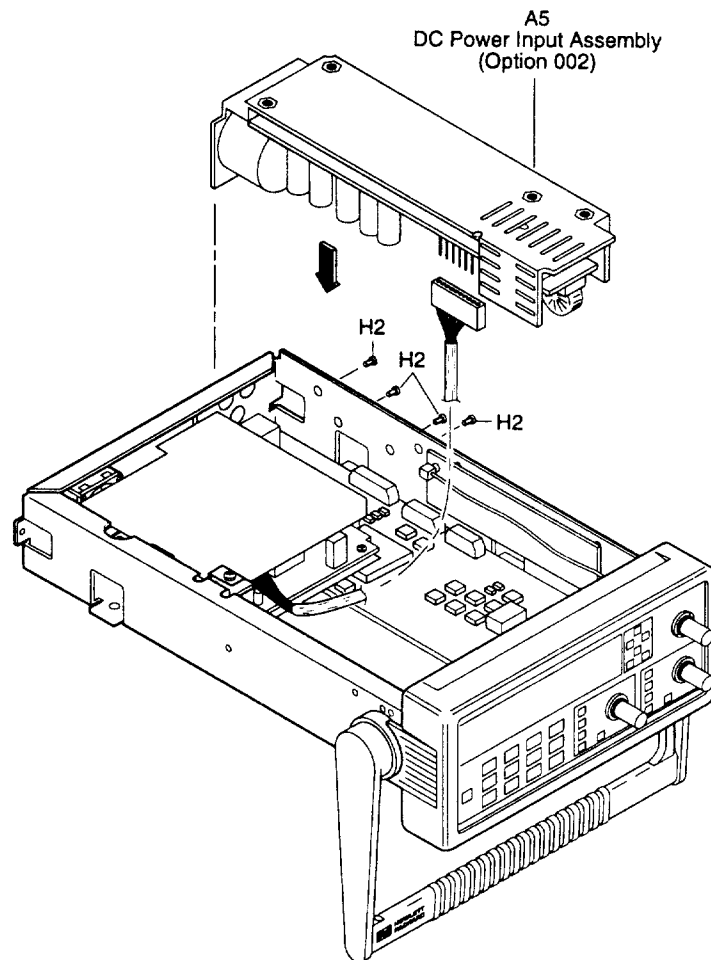

Figure 4-2C. DC Power Input Assembly Retrofitting
- a. First, connect the other ac power supply cable to the connector on A5 printed-circuit board as shown in Figure 4-2C.
- c. **Using the four TORX 10 screws (H2), secure A5 DC Power Input Assembly to the side of the chassis (MP10) as shown in Figure 4-2C.**